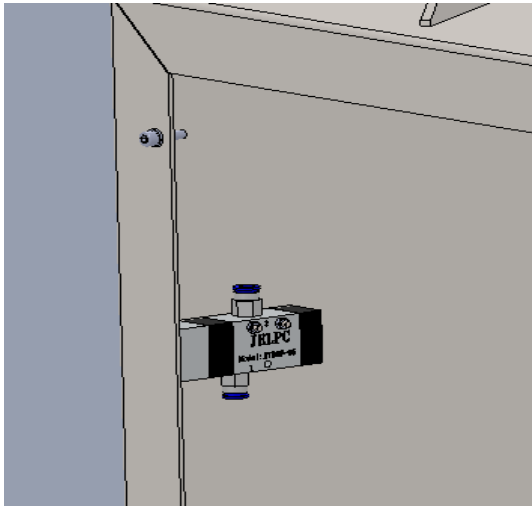
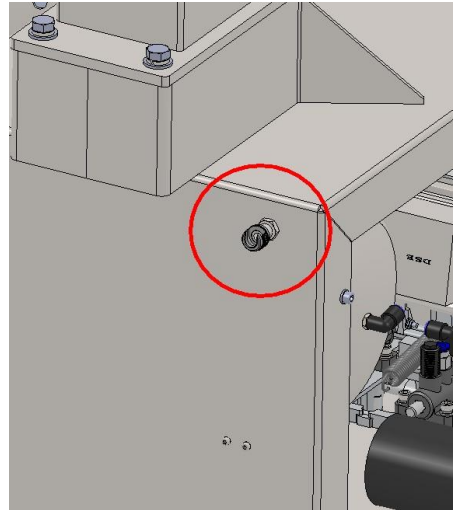

FIG 16A
FIG 16B
3.3.5 For Model LC-5810, the air hose connection is different from above. There is an air regulator inside the body (FIG 16A); The air hose should connect to it at its outside fitting, situated at right up corner at rear. (FIG 16B)